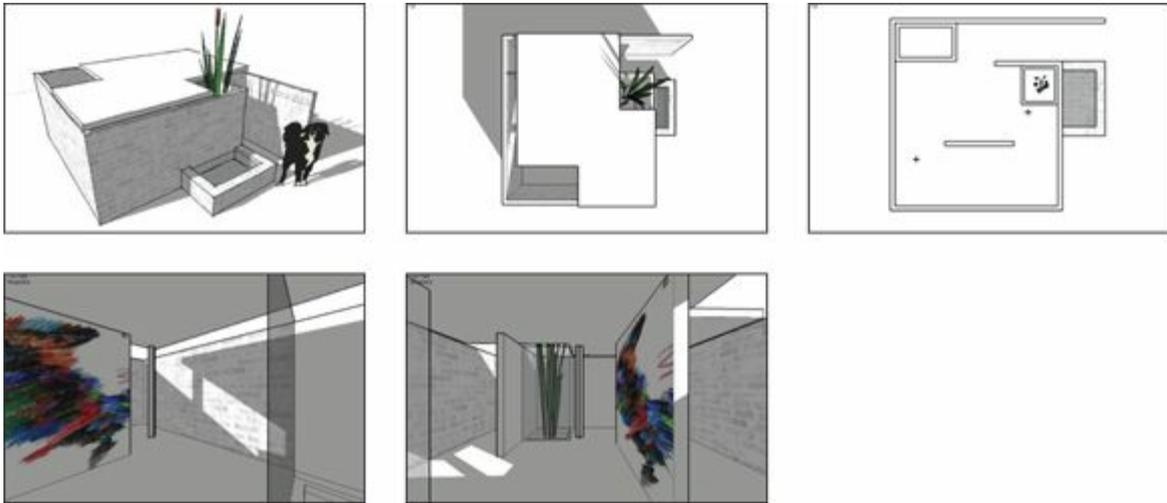

FIGURE 11-4: To show very specific views, create scenes.
- » **Scenes are *by far* the most effective way to present your model.** Saving a scene for each point that you want to make in a presentation allows you to focus on what you're trying to say. Instead of fumbling around with the navigation tools, turning on shadows, and making the roof visible, you can click a button to transition to the next scene (which you've already set up exactly the way you want). Figure 11-4 shows a set of scenes Aidan created to present a house he designed for his dog, Savannah.